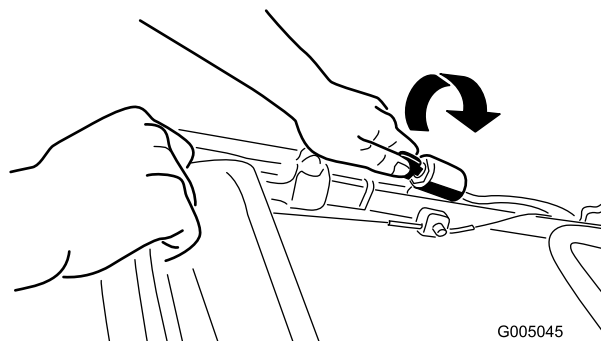
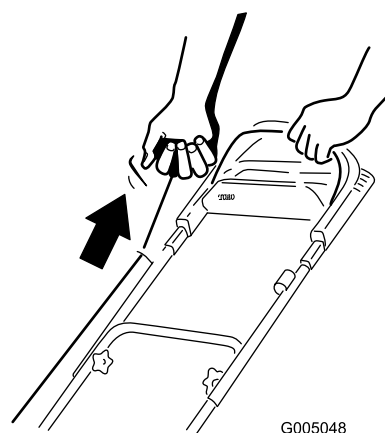

Figure 15
Figure 16
3. Turn the ignition key (Figure 15) (models 20074 and 20074A only) or pull the recoil start handle (Figure 16).